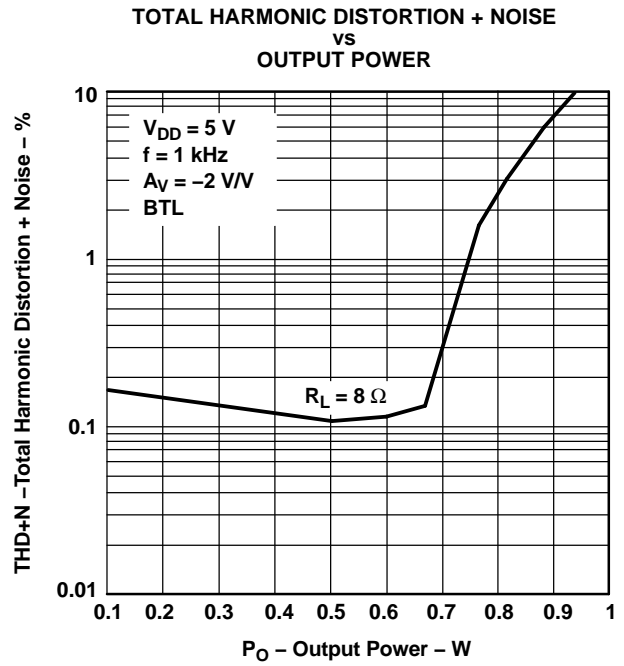

Figure 13.
| $P_O$ Output power                           | THD = 0.5%, See Figure 13   |     | 700 (1) |     | mW                 |